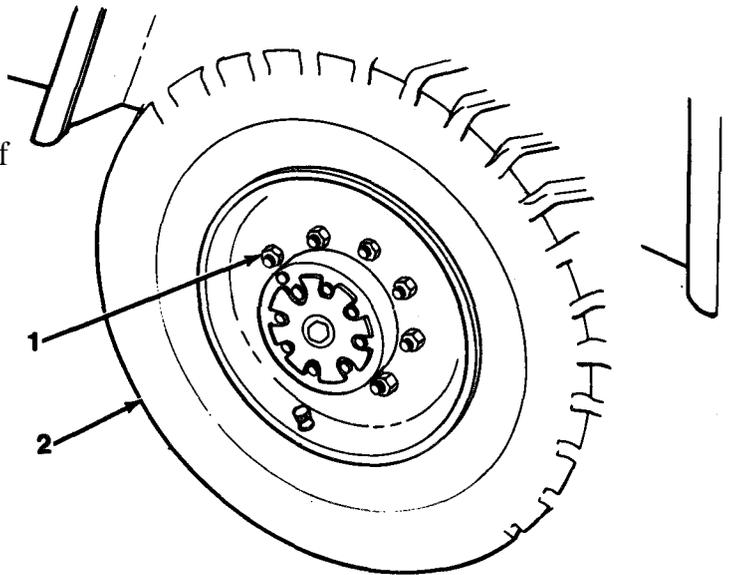

Figure 12-1
3. Remove 10 lug nuts (1, Figure 12-1).
4. Remove tire and wheel assembly (2) from axle hub.
1. Install inflated tire and wheel assembly (2) on axle. Install 10 lug nuts (1, Figure 12-1) on hub studs.